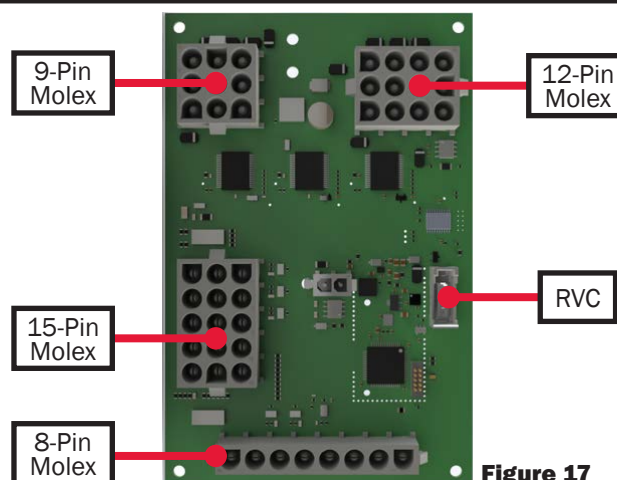

Figure 17
- Suggested disconnect order (see Figure 17):